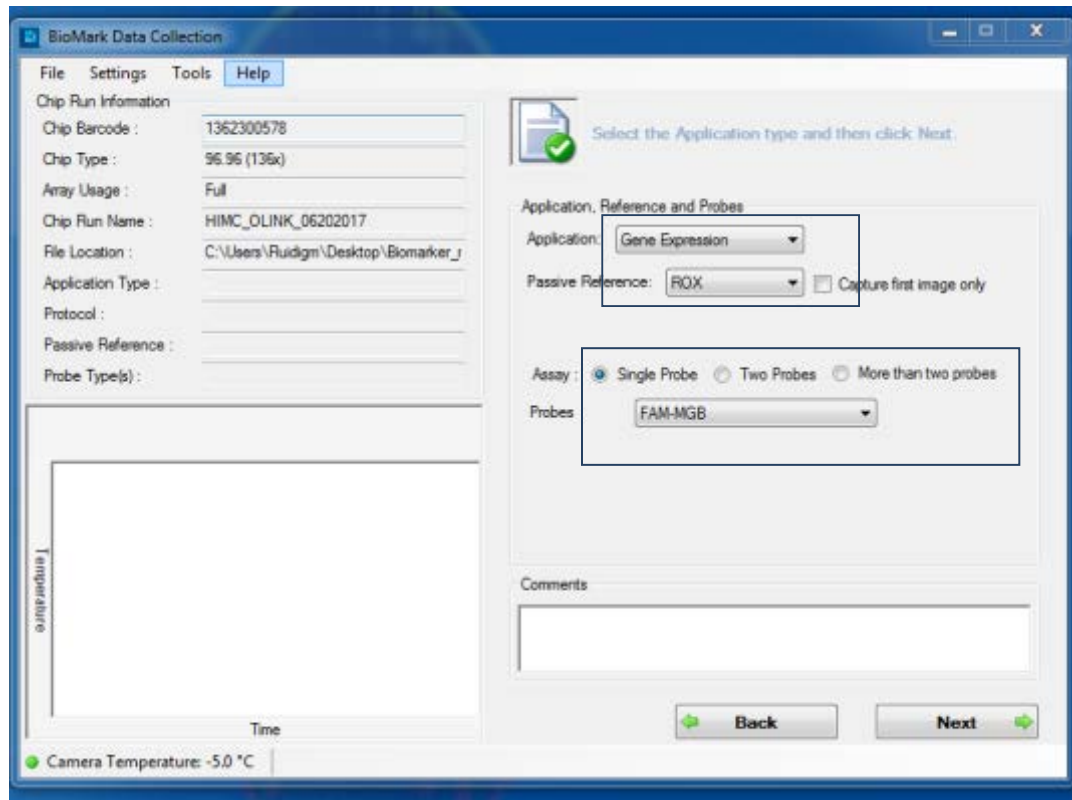

Figure 4 Application reference and probe setting
- 5.4.19. Set the following options for application reference and probe setting according to Figure 4, then select “Next”